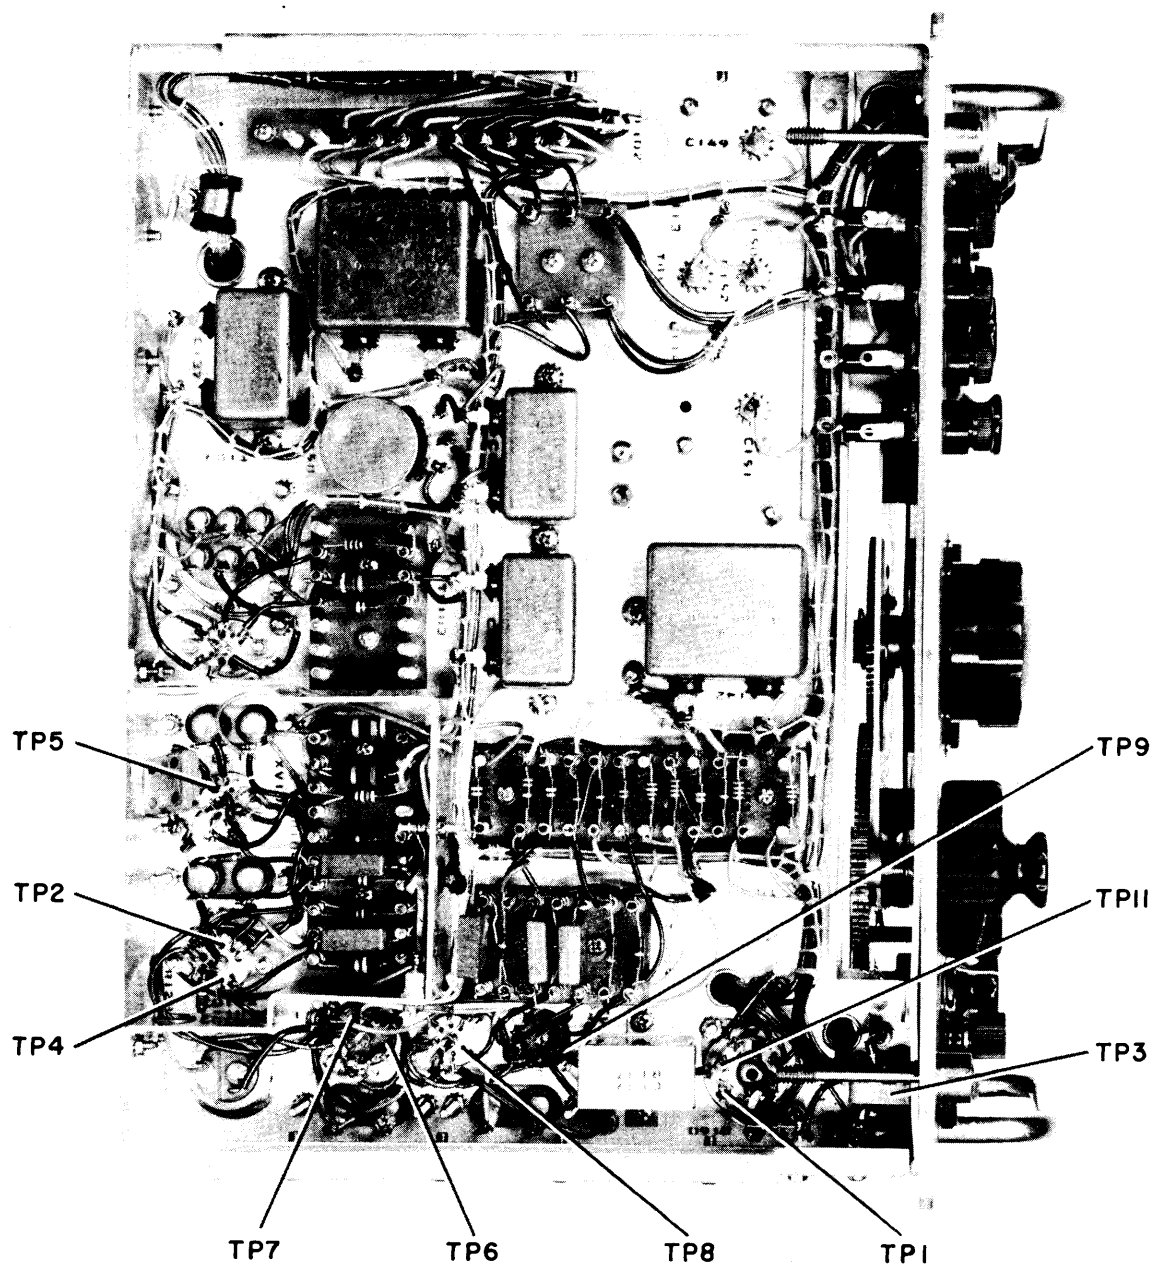

Figure 7-4. Test Point Locations, Bottom of Chassis, Field Strength Meter IM-84/URM-50
tween the grid of the 5814 (pin no. 7 of V107B) and chassis. (Test point no. 7, Figure 7-4).
Step 7. Move the audio oscillator to connect between pin 1 of V106 and chassis. (Test point no. 8, Figure 7-4).